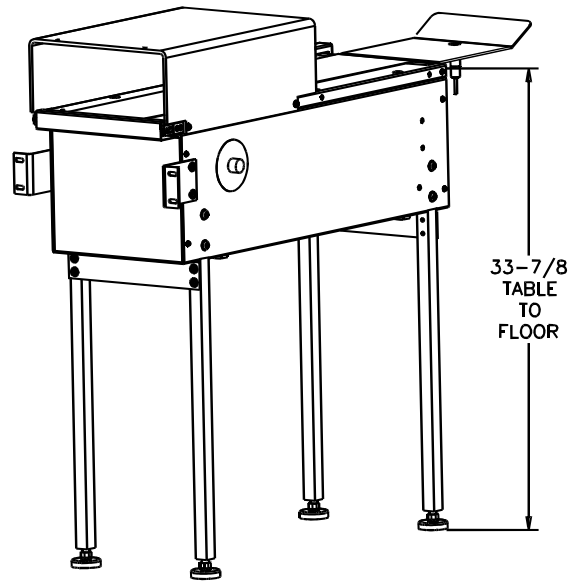

Figure 2-36. Exit Conveyor Height
1. Remove (4) sets of screws and washers from the right side of the trimmer, near and on the power panel cover. Save them for later use.
2. Adjust the leveling feet of the Exit Conveyor such that the conveyor surface is approximately 33-7/8" (86.0 cm) from the floor and level, as shown in Figure 2-36.